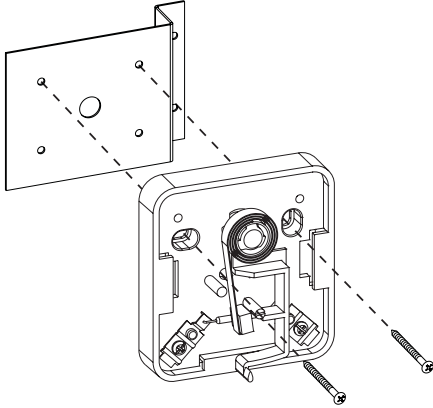

Figure 6
3. Attach thermostat to the bracket using the two (2) screws provided. See Figure 6. Replace the front of the thermostat.